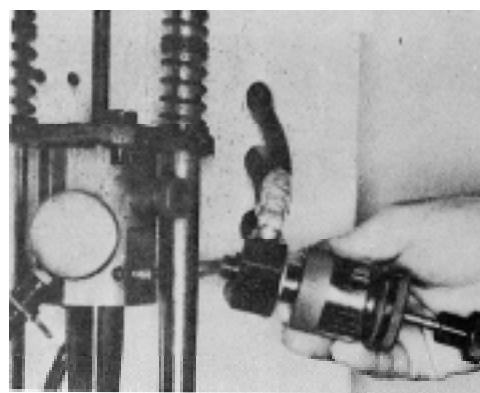

Fig. 6-1-112, F60214. ST-708 installed in inlet connection
14. Install connector and ST-708 tool into Service Tool 3375086, ST-1058 Body inlet by screwing in the large knob section. Fig. 6-1-112.